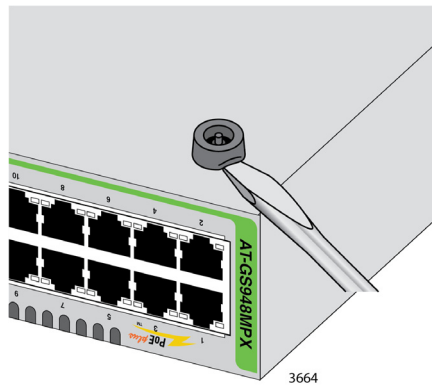

Figure 24. Removing the Rubber Feet
2. Using a flat-head screwdriver, pry the rubber feet from the bottom of the switch. See Figure 24.